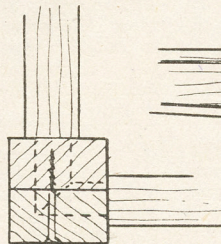

Fig. 2—Section of corner
though the heads could be hidden by a wood button, glued over. Using the design (B), the button at the bottom shown, could very usefully be used for this purpose. At the top where the nails enter, as in Fig. 2, a sufficiently long screw can be driven in to hold all securely together.